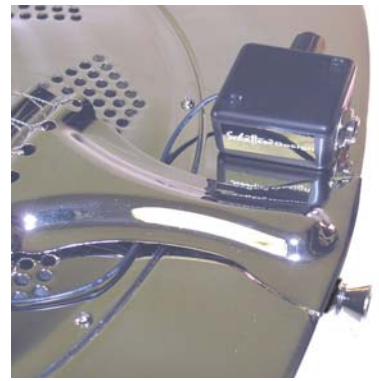

Figure 5
8) There is some room within the jack assembly to store a bit of excess wire, you may take the cover off of the top of the assembly and push wire inside as possible. See *figure 5*